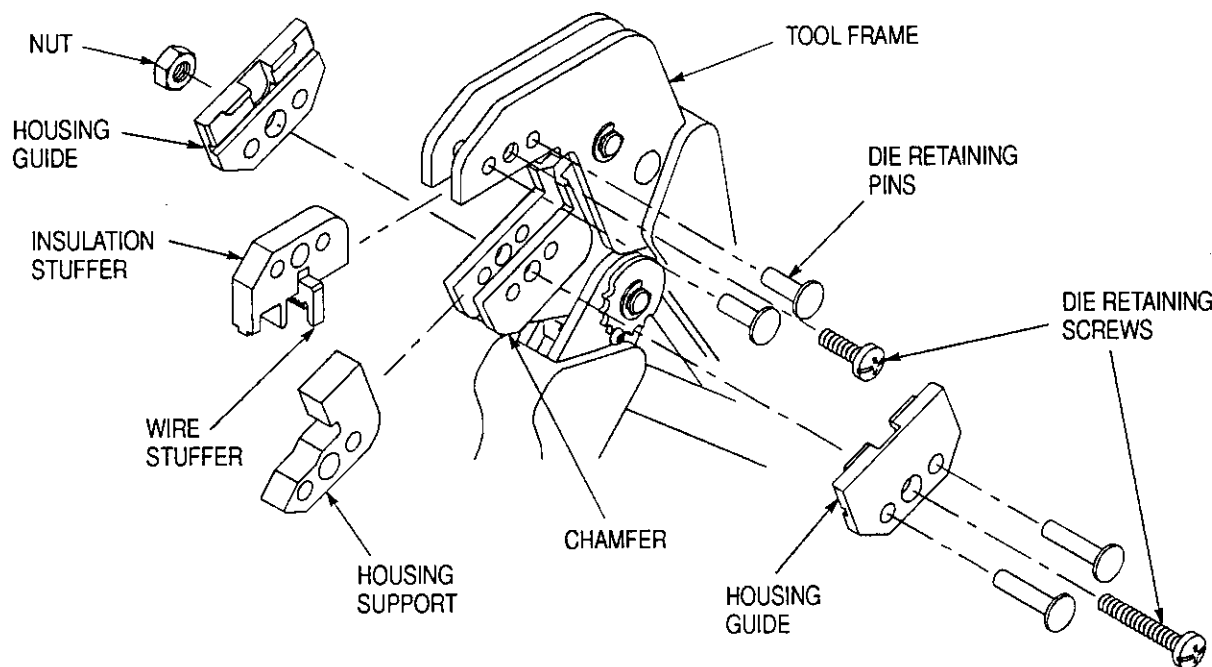

Figure 2
3. DIE SET INSTALLATION AND REMOVAL (Figure 2)
2. Place the insulation/wire stuffer assembly as shown in Figure 2. Insert short die retaining pins and short die retaining screw through the tool frame, and tighten the screw.
3. Place housing support in the moving jaw of the tool frame as shown in Figure 2. Mount right hand housing guide using long die retaining pins, and secure with long die retaining screw. Mount left hand housing guide and tighten nut.